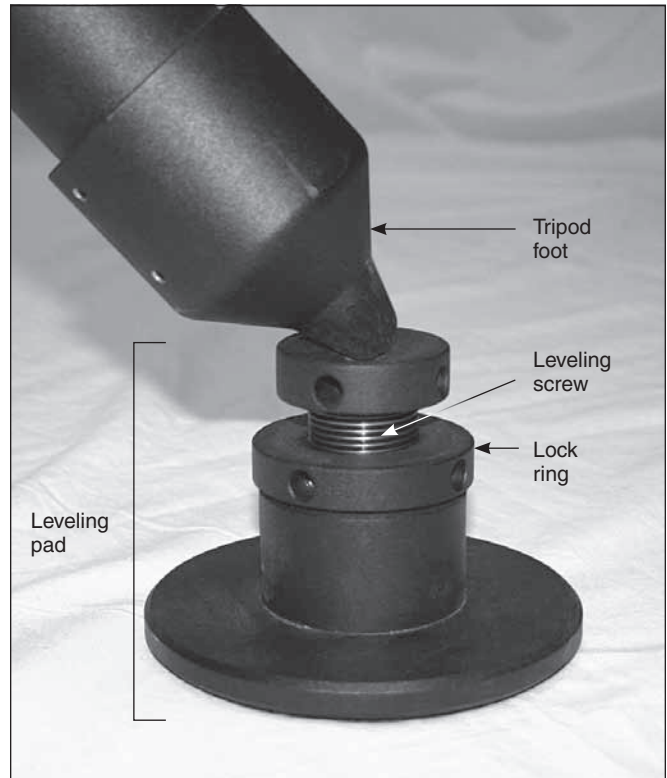

Figure 7. Leveling pads placed under the tripod feet help level the mount.
6. If your surface is not level, use the leveling pads underneath the tripod legs. Place a leveling pad under each tripod foot by lifting each leg one at a time and sliding a leveler pad under it. Place the tip of the foot in the center depression of the pad (**Figure 7**).
8. To extend the leveling screw, turn it counterclockwise. Tighten the lock rings on all three leveling pads once the tripod is level (**Figure 7**).
1. Adjusting the leveling screw on the leveling pad will raise or lower the tripod leg. Adjust one or more of the leveling screws until the bubble is centered in the circle of the bubble level. The small holes on the side of the leveling screw and locking ring can accept a small "tool," such as a Phillips screwdriver shaft or an Allen wrench, to aid in turning them, if needed (**Figure 7**).